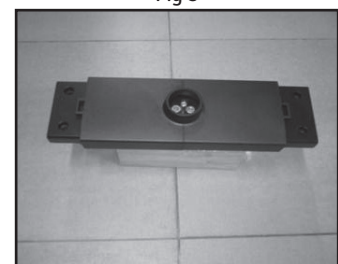

Fig 4
4. Place the Center Support assembly on the floor as shown in Fig. 4.